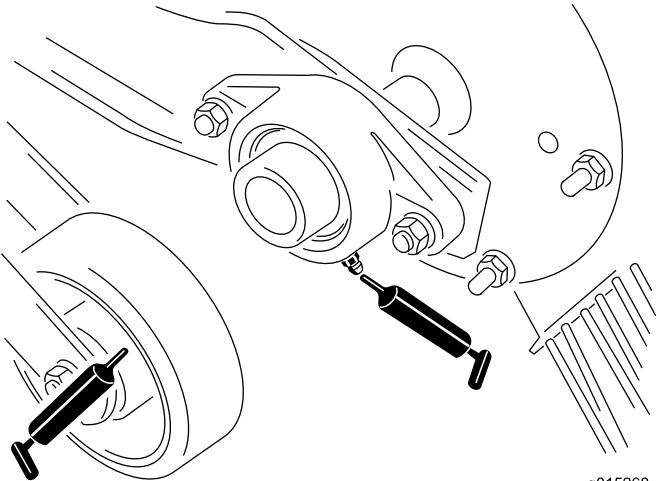
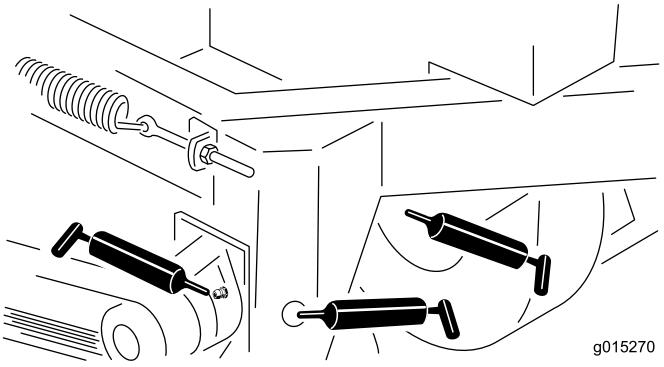
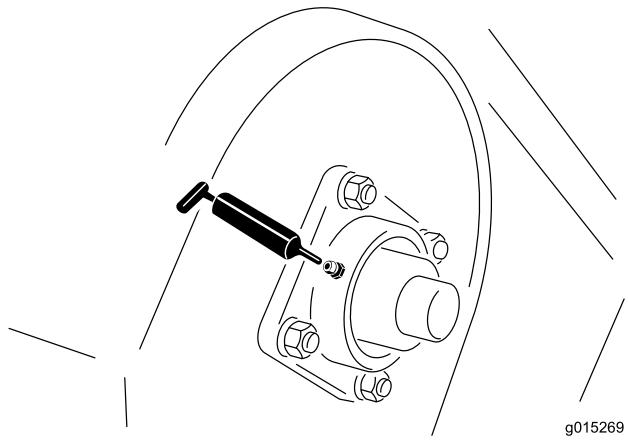

Figure 11
Figure 13
Figure 12
2. Pump grease into the bearing or bushing (Figure 11, Figure 12, and Figure 13).